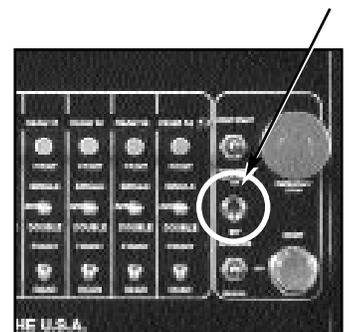

Fig. 6
- **Test Print Toggle Switch: (Figure 6)**